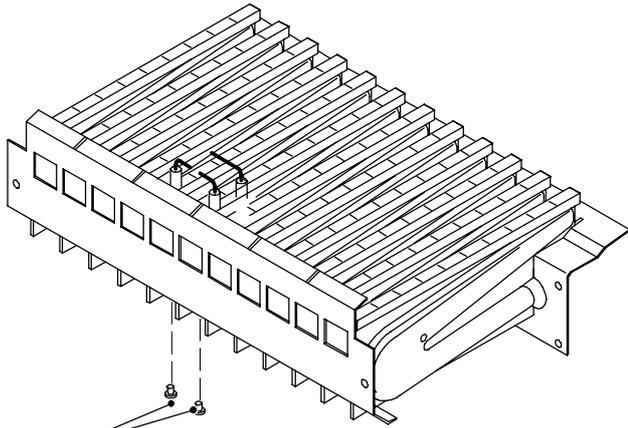

Fig. 4
- 5 Unscrew the screws *A* (Fig. 4) which hold the electrodes to the burner.